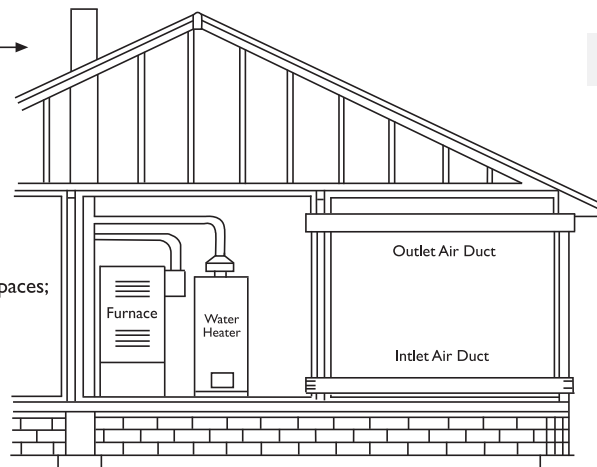

FIGURE 8
1. When communicating with the outdoors through horizontal ducts, each duct opening shall have a minimum free area of 1 square inch per 2,000 BTU per hour of total input rating of all equipment in the enclosure. (Figure 8).